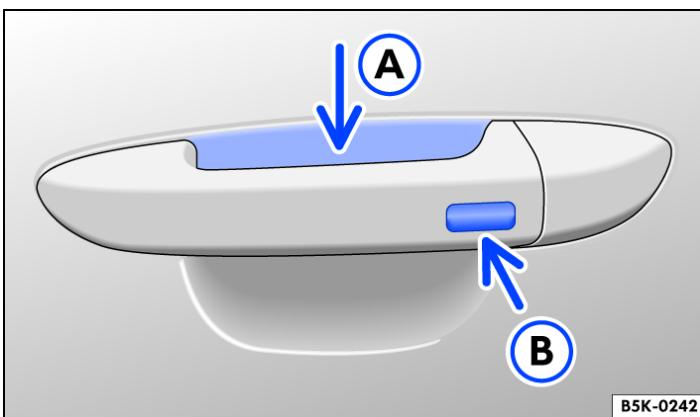

Fig. 2 In the door handle: sensors.
- Touch sensor → *Fig. 2 A* on the inside of the driver or front passenger door handle.
- Touch sensor → *Fig. 2 B* on the outside of the driver or front passenger door handle.
- Then touch the sensor on the outside of the door handle once within five seconds → *Fig. 2* . Do not put your hand around the door handle when doing this.
- Place a finger on the sensor of the driver or front passenger door handle for a few seconds → *Fig. 2* .